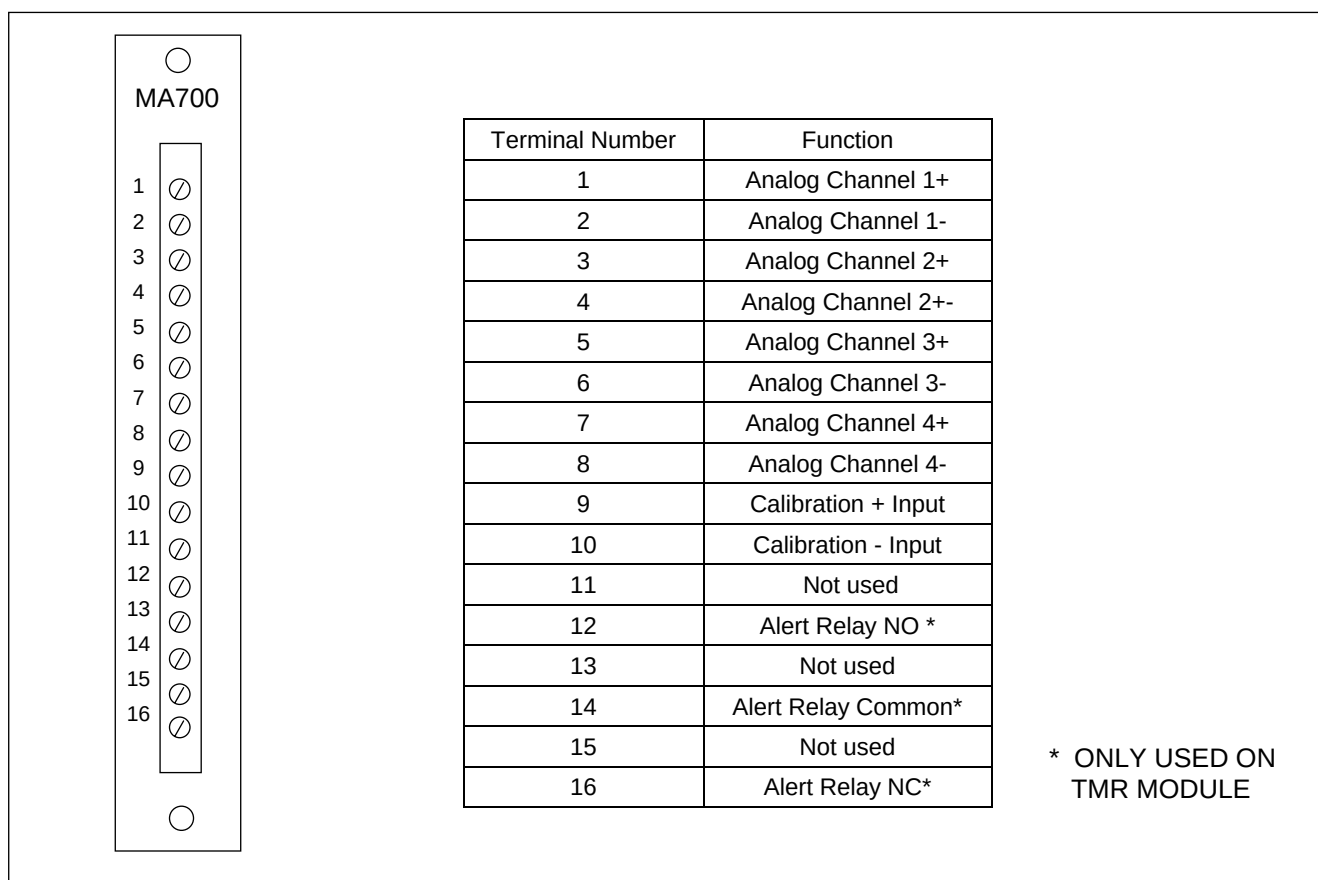

Figure 1. MA-700 Module Adapter for RFL TMX and TMR Telemetry modules
3. Each module in the IMUX 2000 multiplexer requires a Module Adapter. The module adapter provides the appropriate connector for the desired interface. The Module Adapter that is used with the TMX is the MA-700 as shown in Figure 1.
7. Connect the module adapter to the user equipment using the pin assignments listed in Figure 1 as applicable.